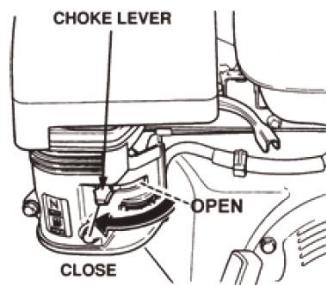

FIG.7
- 9.3 Place the choke lever (FIG. 7) in the "CLOSED" position if starting a cold engine.
9.7 If the engine has started, slowly return the choke lever (FIG. 7) to the OPEN position. If the engine has not started repeat steps 1 through 6.